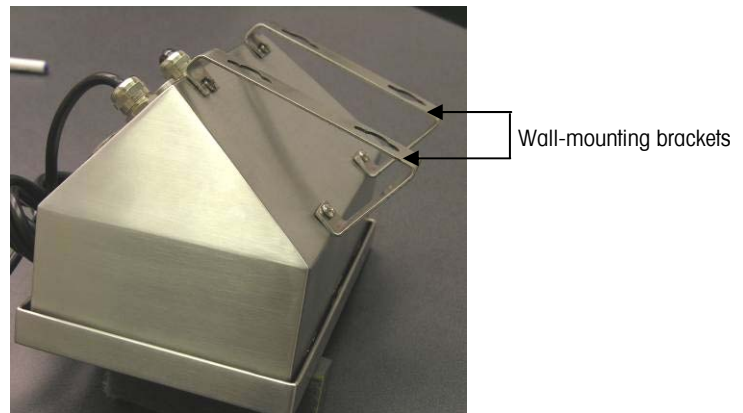

Figure 2-7: Attaching the Wall-Mounting Brackets
1. Bolt the two brackets to the bottom of the enclosure using the four M5 screws included with the terminal. The brackets should be attached as shown in Figure 2-7.